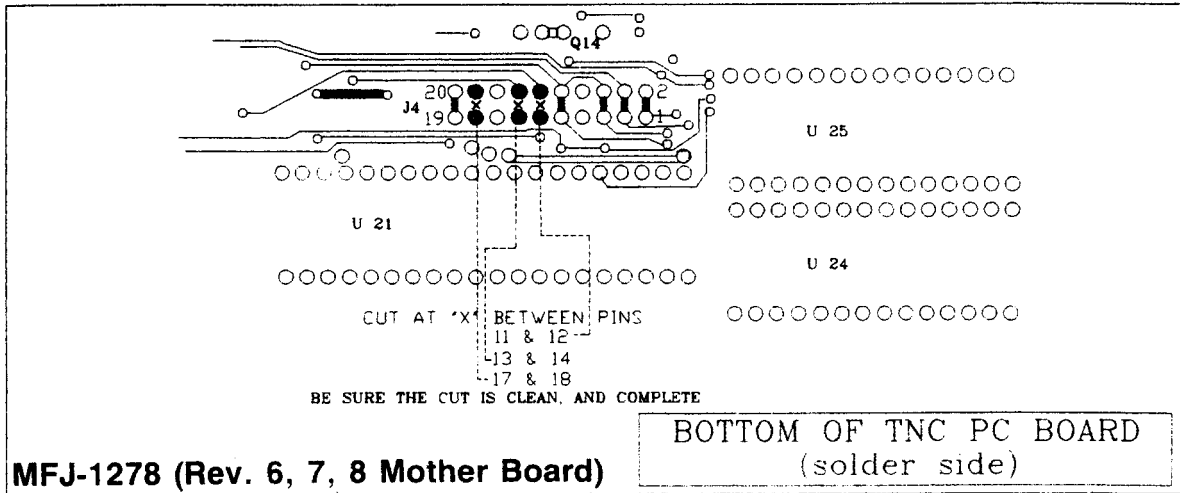

FIGURE 3
#### A: INSTALLATION OF THE 20 PIN HEADER: Refer to FIGURE 3
The drawing at FIGURE 3 will help you locate the header traces to cut. Use "solder-wick" or a solder vacuum device to remove any solder which may be covering any of the 20 pin header holes. Cut the traces between the three (3) points shown in the illustration.
For a more detailed drawing, see Figure 3.